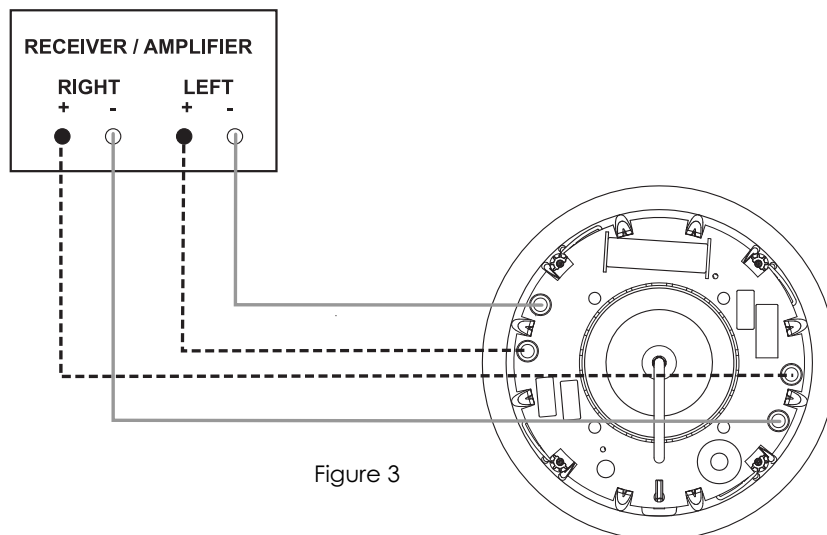

Figure 3
- Hold the speaker up to the cutout and connect the speaker cables. Proper polarity (or phase) is critical for proper stereo imaging and bass performance. Connect the left channel's red(+) terminal of your receiver or amplifier to one of the red(+) terminals of the Invisia loudspeaker and the left black(-) terminal of your receiver or amplifier to the adjacent black(-) terminal of the Invisia loudspeaker. Repeat for the right channel and the other set of connectors on the Invisia speaker. (See Figure 3). Most speaker cables are either color coded or have some indicator (ribbing or writing) on one of the conductors to help maintain this consistent polarity. It is essential that the speaker be connected in the same way (in phase) to its own channel of the amplifier.